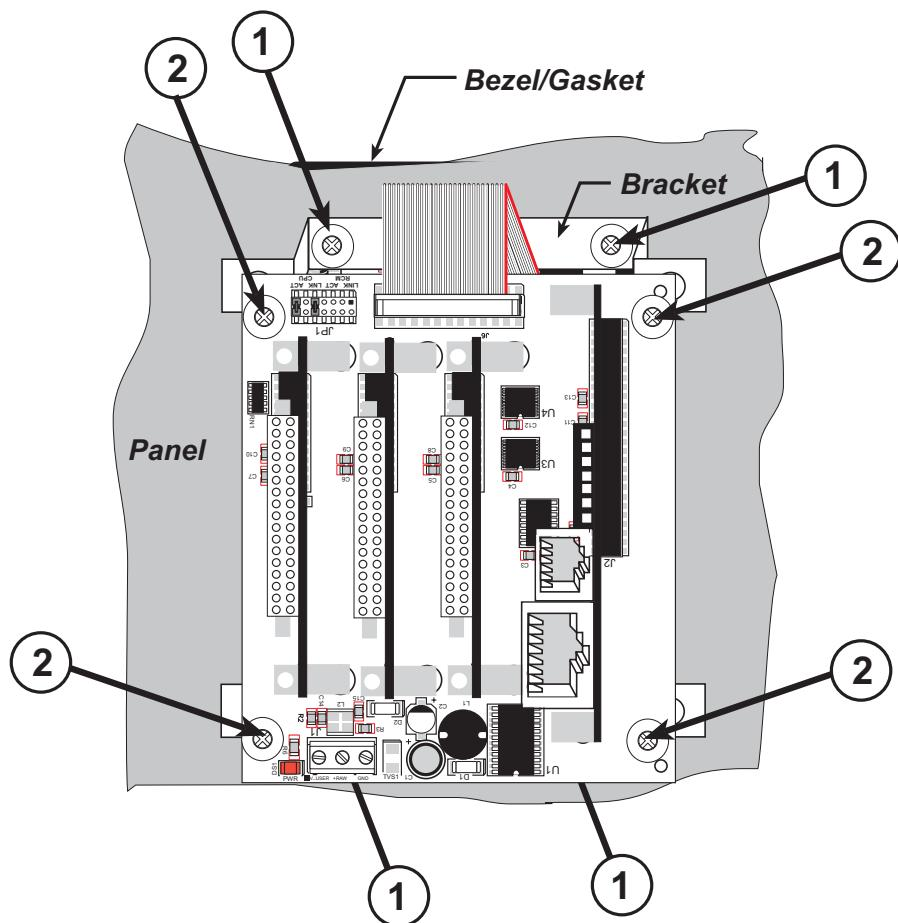

Figure B-10. Install Smart Star Backplane Behind LCD/Keypad Module
2. Use brackets to secure the LCD/keypad module to the panel using the four 4-40 screws and washers included with the LCD/keypad module. The four screw positions are indicated with the number 1 in Figure B-10. If your panel is thick, use a 4-40 screw that is approximately 3/16" (5 mm) longer than the thickness of the panel.
3. Use a ribbon cable to connect header J6 on the backplane to header J1 on the LCD/keypad module. Note the pin 1 positions reflected by the red-colored line in the ribbon cable shown in Figure B-10.
4. Secure the Smart Star backplane using four 4-40 \times $1/2$ " or 6-32 \times $1/2$ " screws at the screw positions indicated with the number 2 in Figure B-10.